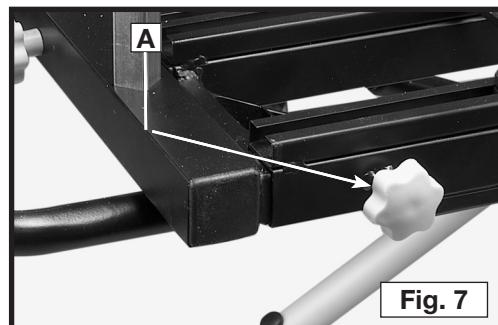

Fig. 7
Install the two shorter lock-knobs (one shown at (A) Fig. 7) in the holes located on the front and rear of both sides of the stand. These lock-knobs lock the movement of the extension rollers.